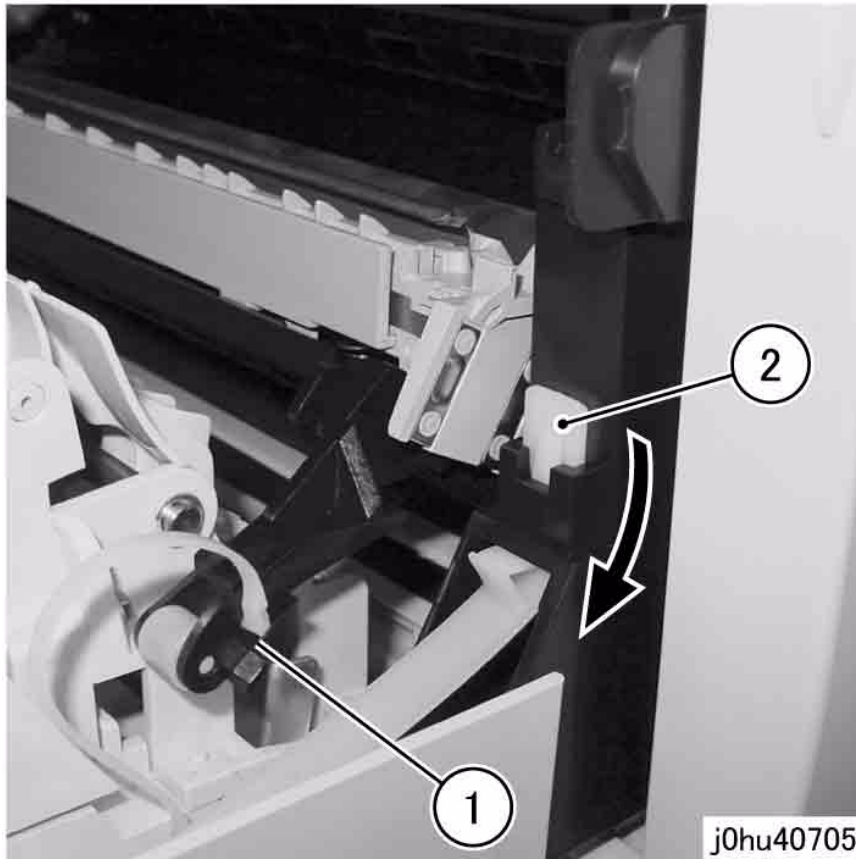

Figure 3 Remove Front Stopper
5. Remove the Front Stopper (Figure 3).